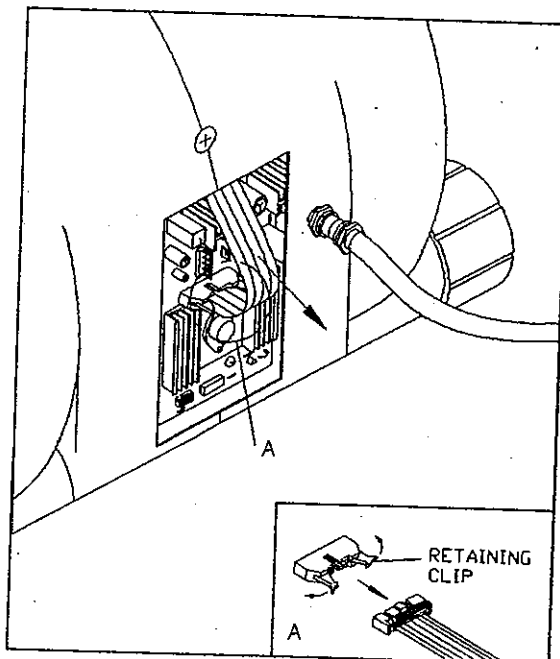

Fig. 6
6. Unplug the 16 pin cable, pull back the retaining clips to release the pressure (see Fig. 6). Remove the 16 pin cable.